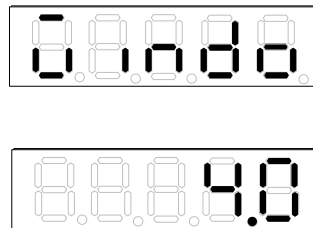

Figure 4-19 Setting Window and Window Time
3. In AC voltage parameter display a blinking pattern will appear. Use **↑**, **↓** to select Windo and press **Trig/Enter** to save the setting and go to window second setting display as Figure 4-19 shows.